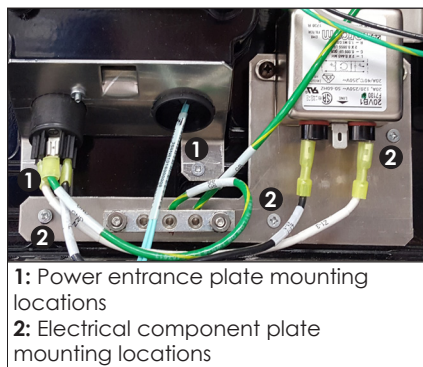
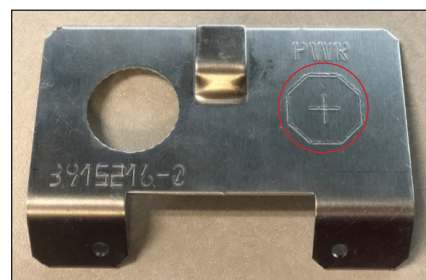

Figure 25: Plate Mounting Points
Figure 26: PWR Conduit Hole
2. Use a Phillips screwdriver to attach the electrical component plate to the panel with the supplied hardware (Daktronics part number HC-1012 @ 3) at the locations shown in **Figure 25**. Hand-tighten to 5 in-lbs.
4. Use a Phillips screwdriver to attach the power entrance plate to the panel with the supplied hardware (HC-1012 @ 2) at the locations shown in **Figure 25**. Hand-tighten to 5 in-lbs.
2. Use a Phillips screwdriver to attach the power entrance plate to the panel with the supplied hardware (Daktronics part number HC-1012 @ 2). Hand-tighten to 5 in-lbs. Drill the PWR conduit hole to match the size of the fitting used. Refer to **Figure 25** and **Figure 26**.